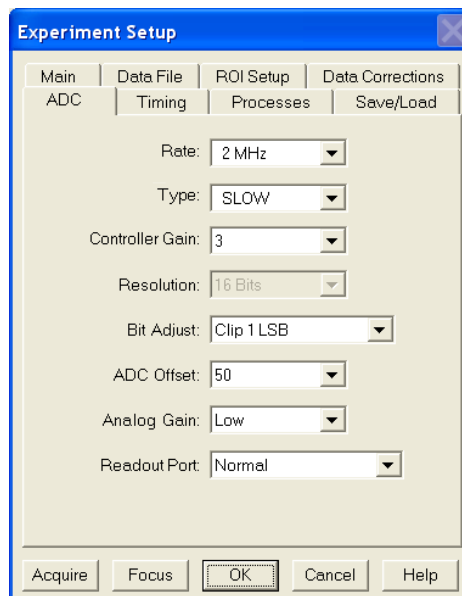

Figure 32. Generic ADC tab
- On the **ADC** tab (Figure 32), set the parameters as they apply to your particular system.